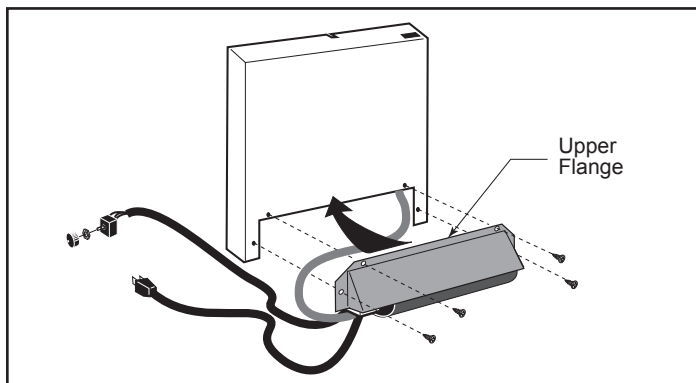

Figure 2 - Place upper flange behind lower edge of shroud.
1. Remove shroud assembly by loosening two (2) hex head bolts on lower inside of shroud. Lift shroud assembly up and away from stove.
2. Attach the fan to the rear shroud by engaging the upper flange of the fan skirt under the lower edge of the shroud and secure the skirt with the four screws and one star washer provided. (Figs. 2 & 3)